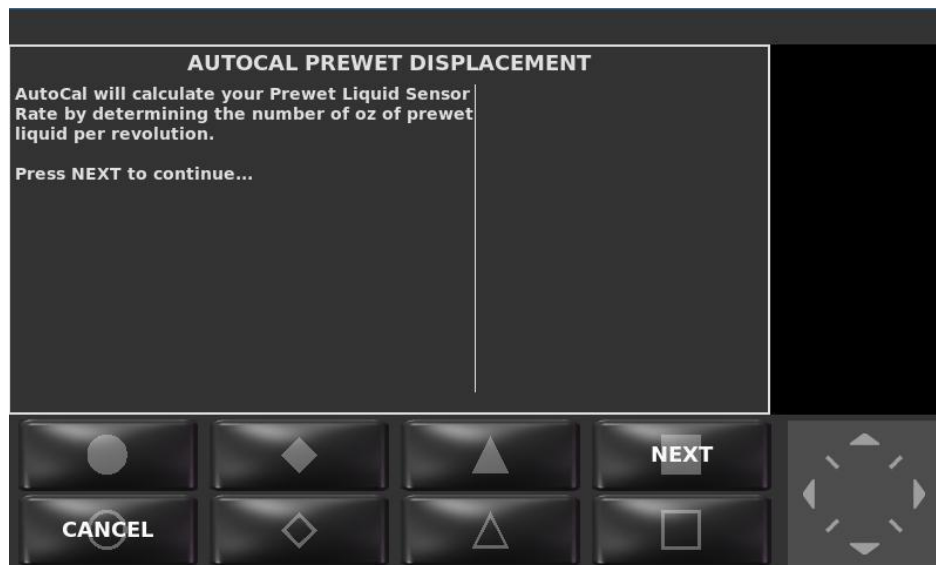

Figure 6: AutoCalibration Prewet Material Displacement Wizard
- STEP 6: The AutoCal Displacement wizard will appear, as shown in Figure 6.